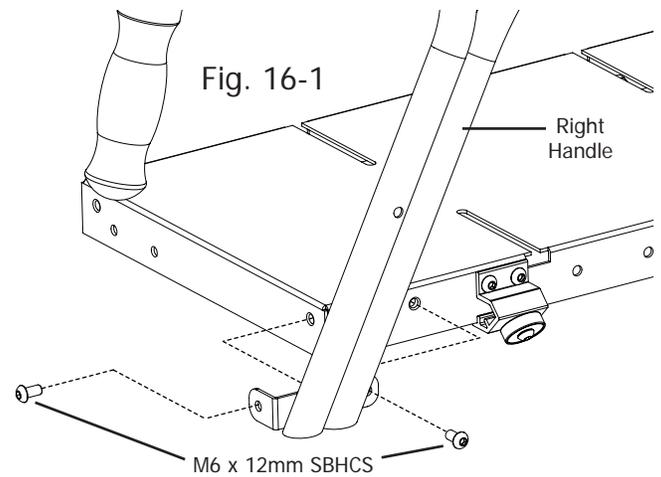

Fig. 16-1
16-1: Attach the right handle to the carriage top plate with two (2) M6 x 15mm SBHCS, as shown in Fig. 16-1.